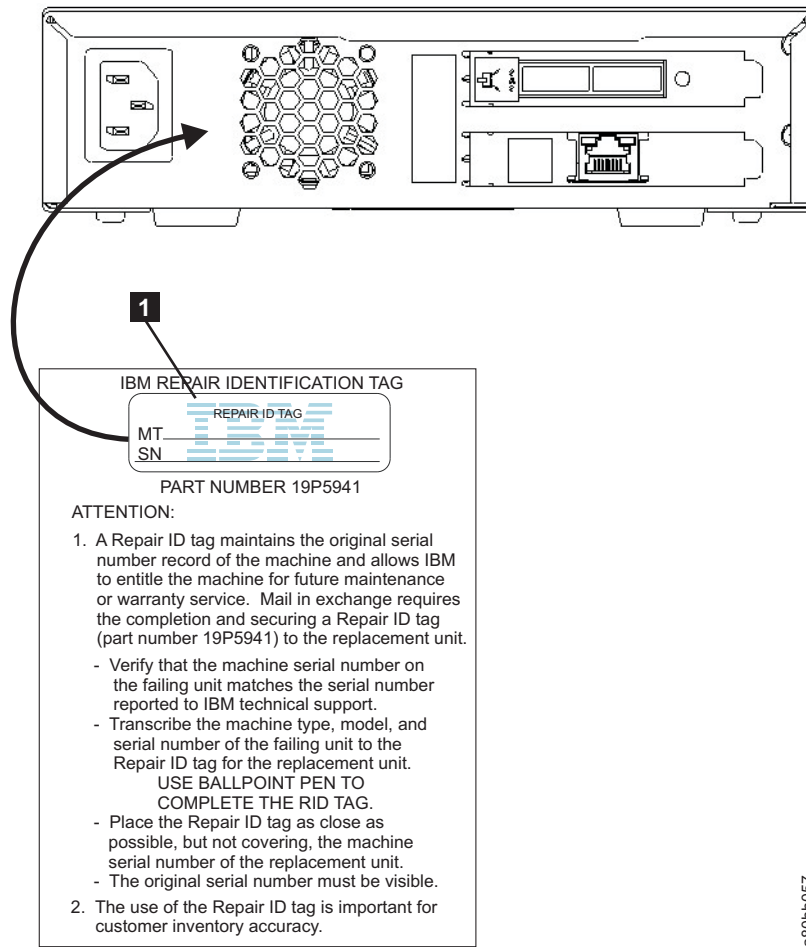

Figure 5-2. RID Tag on Rear Panel
2. Locate the repair identification (RID) tag (included with the replacement unit). See **1** in Figure 5-2 on page 5-6)